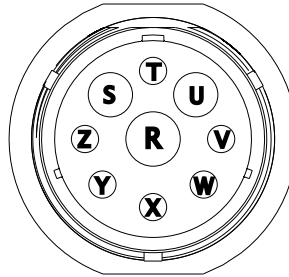

Figure 6, HDP24-24-9PN
9. Install the terminals at the required positions on the HDP24-24-9PN connector provided (see *Figure 6*).